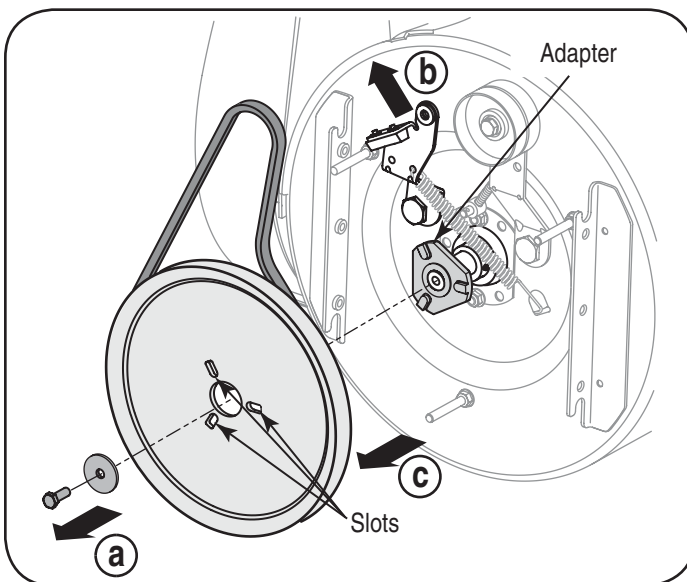

Figure 29
9. Block the impeller with a piece of wood to prevent it from spinning and use a 1/2" wrench to remove the hex screw and washer from the center of the pulley on the auger housing. See Figure 29.
10. Lift the brake bracket assembly out of the pulley groove and slide the pulley assembly off the posts of the auger pulley adapter to remove the old belt. Refer to Figure 29.
12. Turn the pulley as necessary to align its three slots approximately with the posts of the pulley adapter, then move the brake bracket assembly away from the input shaft. While aligning the pulley slots and adapter posts, push the auger pulley fully onto the adapter. Refer to Figure 29.
NOTE: If the pulley adapter was removed with the pulley, align the splines of the pulley adapter and auger input shaft, and push the pulley and adapter onto the input shaft. Refer to Figure 29.